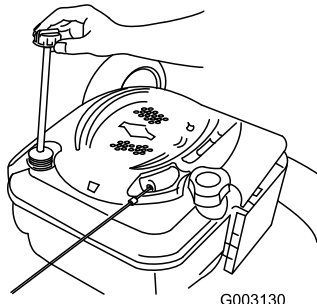

Figure 47
2. Remove the dipstick (Figure 47).